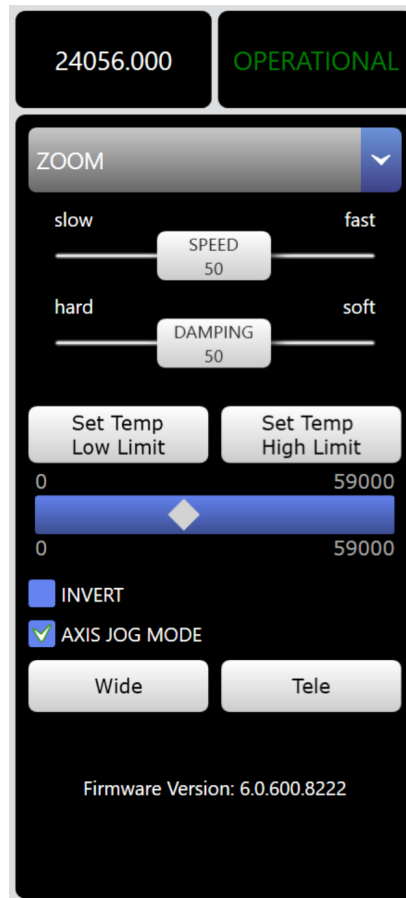

Figure 86 - Axis Control Panel
- In the **Axis Control** panel (Figure 86), tap the **axis list** to expand it and then tap the axis you want to configure.